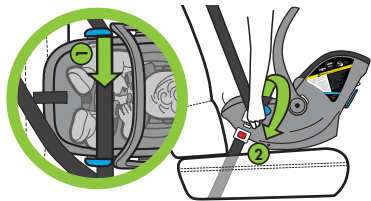

Figure 66
- Route lap portion of the vehicle belt through both blue UAS/Lap Belt Guides (1) and buckle vehicle belt (2), as shown in **Figure 66**. DO NOT pull the vehicle belt all the way out during this step.